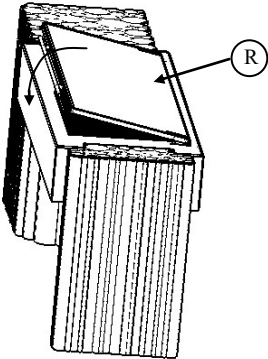
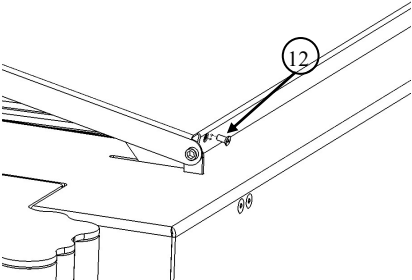

Figure 18:Slightly close the grill cover
Figure 19: Screw insert (12) on cover and tighten on the black glass fixing part
Then close the grill cover (S) slightly (figure 18) always holding the parts (11) and tightening the screws (12) (figure 19).